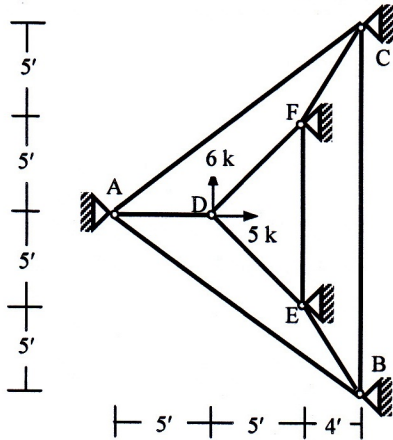

Fig 1
1. For the truss shown in *Fig. 1*, ignore the zero-force members and apply the boundary conditions to determine the value of unknown joint displacements [Given: $S_x = 1000 \text{ k/ft}$].
10. For the plane truss shown in *Fig. 1*, applying boundary conditions calculate its natural frequencies using consistent mass matrices [Given, $E = 30000$ ksi, $A = 2$ in², $m = 1.5 \times 10^{-6}$ k-sec²/in²].
10. For the plane truss shown in *Fig. 1*, applying boundary conditions calculate its natural frequencies using consistent mass matrices [Given: $E = 30000$ ksi, $A = 2$ in², $m = 1.5 \times 10^{-6}$ k-sec²/in²].